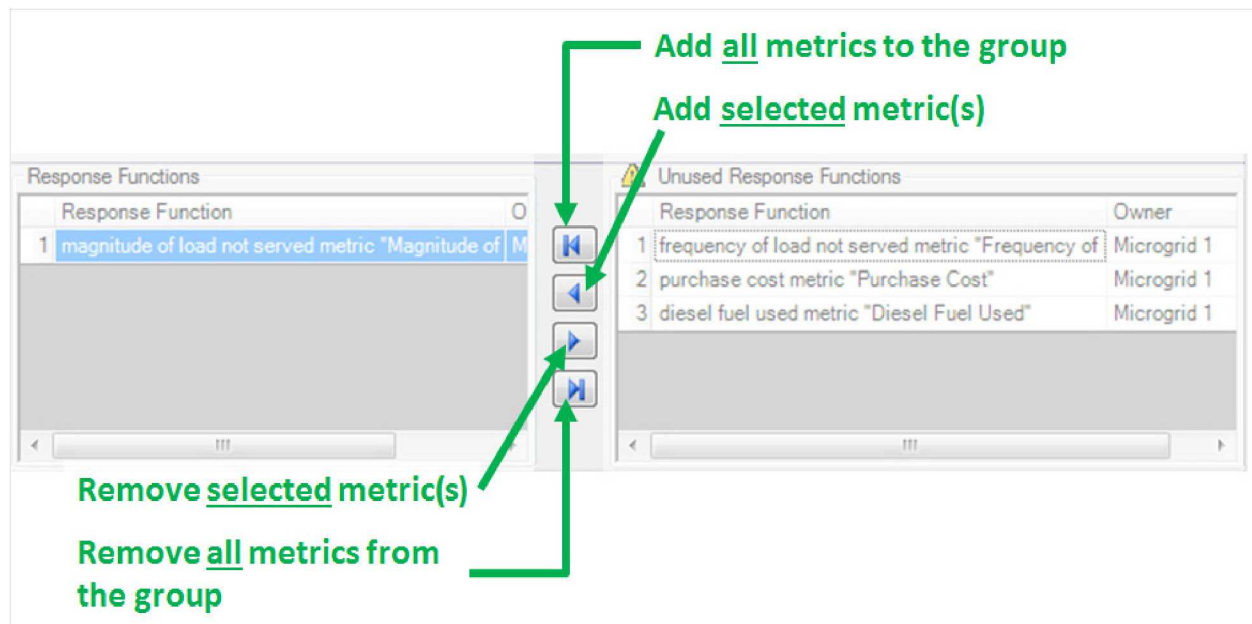

Figure 48. Adding and removing metrics from Response Function Groups.
- d. Click the left arrow button to add the metric to the group (Figure 48).